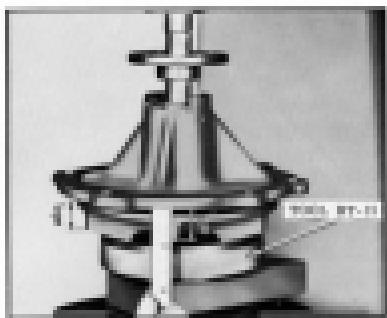

Fig. 273. Inserting Impeller.
3. Using tool BT-15 to support impeller as shown in Figure 273, press bearing shaft through impeller until bottom edges of cones are $13/16$ inch from machined face at edge of housing.
from front of center to soldered seam of float. The dimension, which should be 25.52", as shown in Fig. 273, is measured with a scale or tool number ST-17. (Scale gauge should be removed when adjustment is measured.)